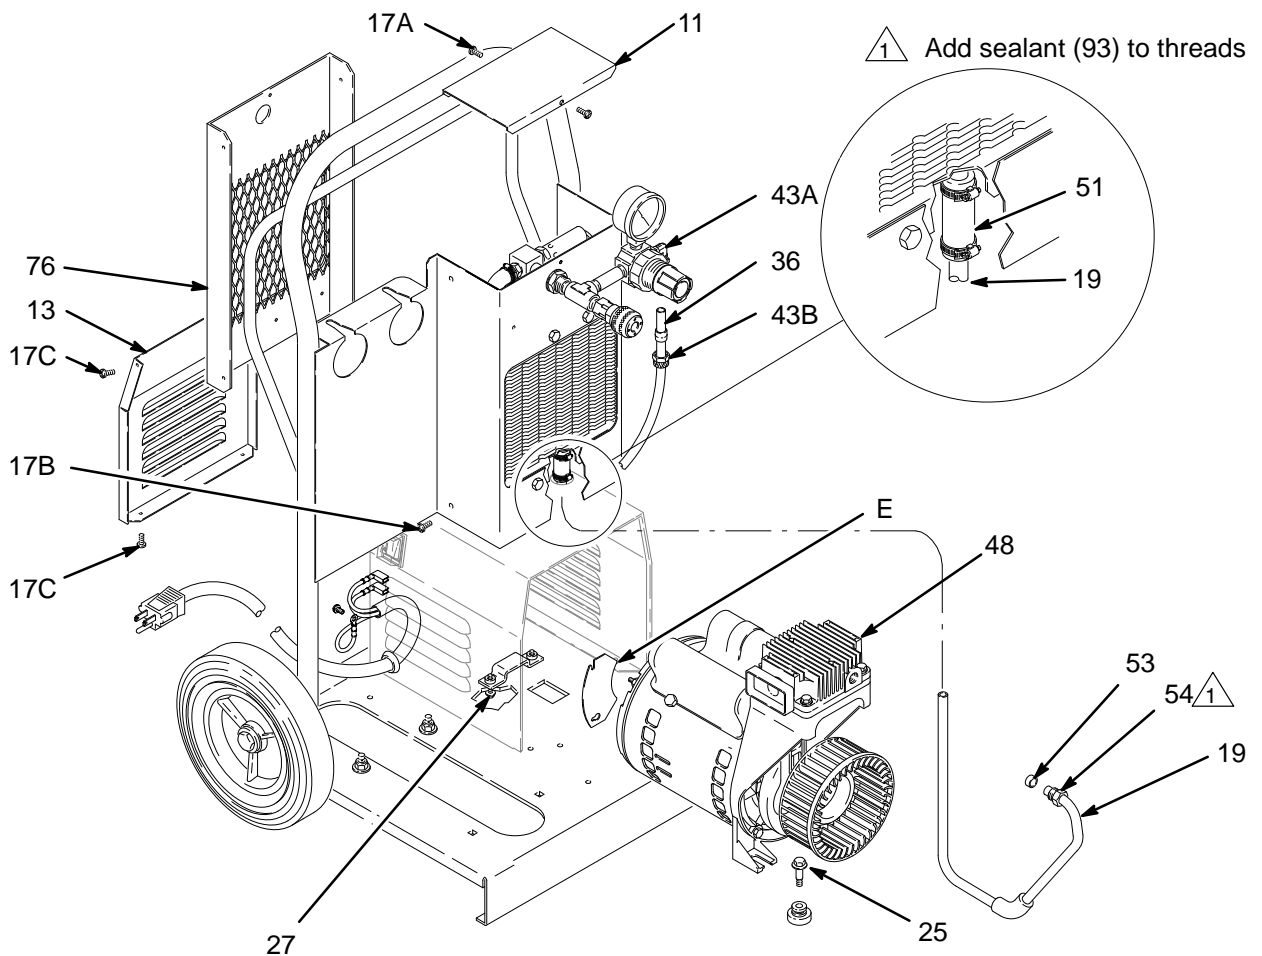

Fig. 17
9. Remove the screw (17A) from the top cover (11). See Fig. 17.
10. Remove the screws (17B) and the back cover (76). See Fig. 17.
11. Remove the screws (17C) and the lower back cover (13).
12. Disconnect the wires at the compressor motor. They are located behind the access plate (E).
13. At the compressor, disconnect the end of the tube (19). Be careful not to bend the tube.
14. Remove the front screws (25) and loosen the rear screws (27). Pull the compressor (48) forward.
15. Replace the compressor motor in the reverse order of disassembly. Be sure the silicon sleeve (53) is in place when securing the tube (19) to the front of the compressor. Add sealant (93) to the threads of nut (54). Hold tube (19) securely in place when tightening nut (54).